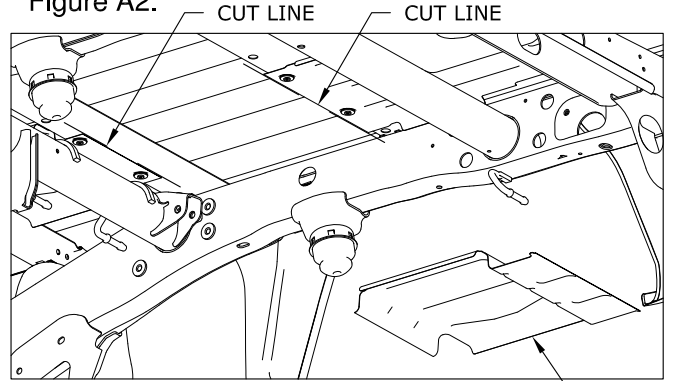

Figure A2: View Under Bed Looking at Heat Shield Removal Area
5. **Modify heat shield.** Cut out the section of the heat shield directly over the exhaust between the two bed crossmembers that are above the rear axle, see Figure A2.